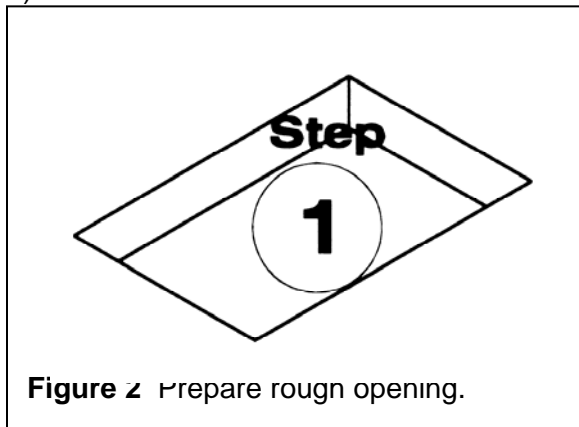

Figure 2 Prepare rough opening.
Step 1. Prepare skylight rough opening. Clear a margin of solid, smooth substrate around the opening perimeter (see Figure 2).